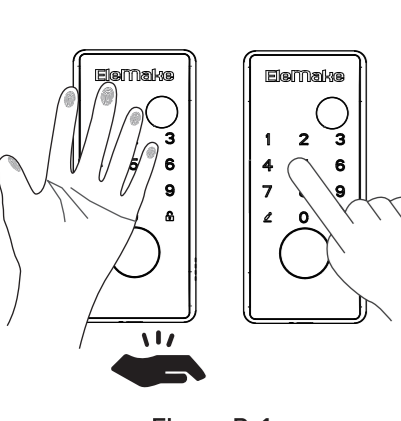

Figure P-1
(2) Password unlocking(Figure P-1)